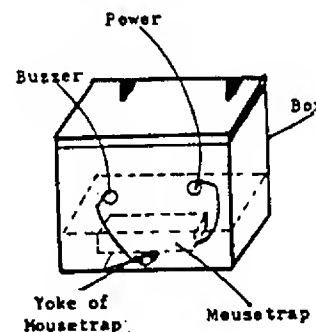

Figure 383 Pressure Release Device Booby Trap
2. A "Pressure Release Device" can be made by using a mousetrap with the holding lever and bait platform removed. Make a small wooden box with the four sides extending about $\frac{1}{2}$ inch below the bottom of the box. Screw or bolt the mousetrap to the bottom of the box with yoke side away from the bottom. One lead wire has to be attached to the yoke and another lead wire must be attached to a metal plate located on the front of the mousetrap so that when the yoke is against it the circuit will be closed. When the yoke is drawn back to the "setting" position, the box can be carefully set down. The weight of the box will keep the yoke in check, but when the box is lifted it will complete the circuit and the buzzer will go off. See Figure 383.